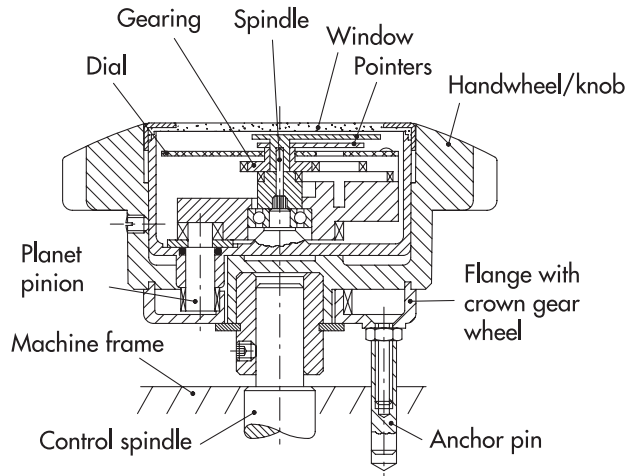

Fig.4
1.2 The movement is housed in a sealed case (fig. 4). The handwheel/knob, containing the indicator (see table belows), is coupled to the control spindle. On the rear of the handwheel/knob a flange with internal crown gear wheel (shrouded) is fitted to the machine frame by means of an anchor pin (or similar). By so doing, during handwheel rotation, the flange is integral with the machine. The rotation of the handwheel causes the planet pinion to rotate, transmitting in this way the movement inside the indicator case. The rotation is then transmitted to both pointers by means of a gearing, while the graduated dial remains still thanks to the fixing to the machine frame by means of the anchor pin.